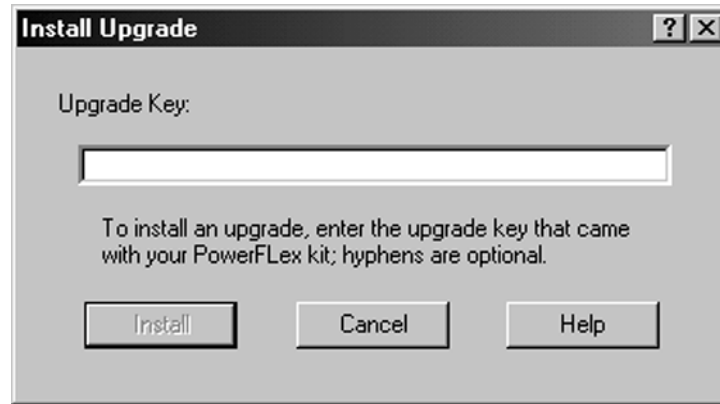

Figure 2: Install Upgrade dialog box
5. Click the Install Upgrade button in the PowerFlex window. The Install Upgrade dialog box appears (see Figure 2).